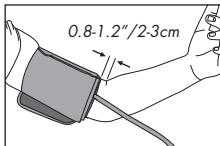

Fig. 5
6. The bottom edge of the cuff should be positioned approximately one inch above the elbow joint, Fig 5.